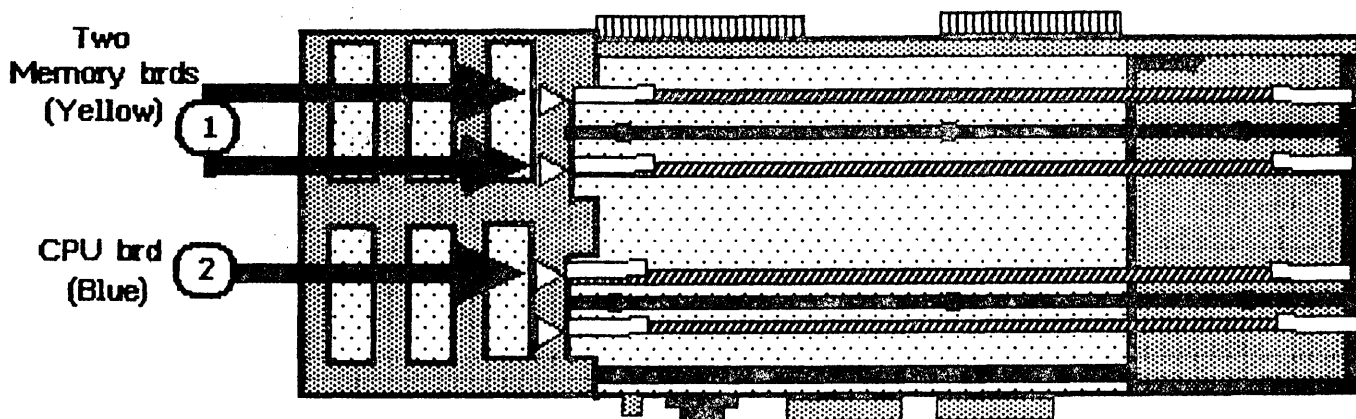

FIGURE 6
1. Orient the card cage so that the expansion slots are at the left, as shown in Figure 6.
- a) The CPU board has a brown lever on the right and a BLUE lever on the left. (See Figure 6, #1.)
- b) The memory boards have brown levers on the right and YELLOW levers on the left. (See Figure 6, #2.)